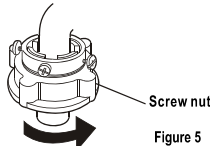

Figure 5
4. Extend the drain hose from the other side. Fix the drain hose with drain hose frame onto the cabinet, as indicated in Figure 5.
4.Take off the nameplate. Twist the fastening nut as per the indication of the figure to seal up the exit end face of the faucet. See to Figure 5.